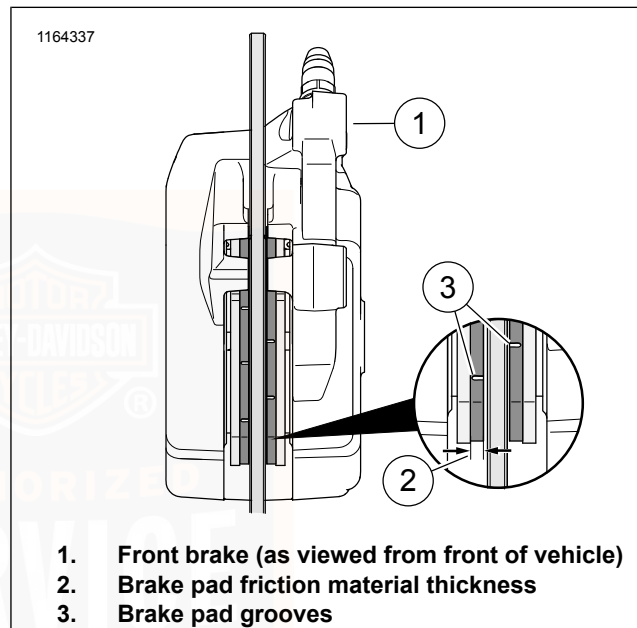
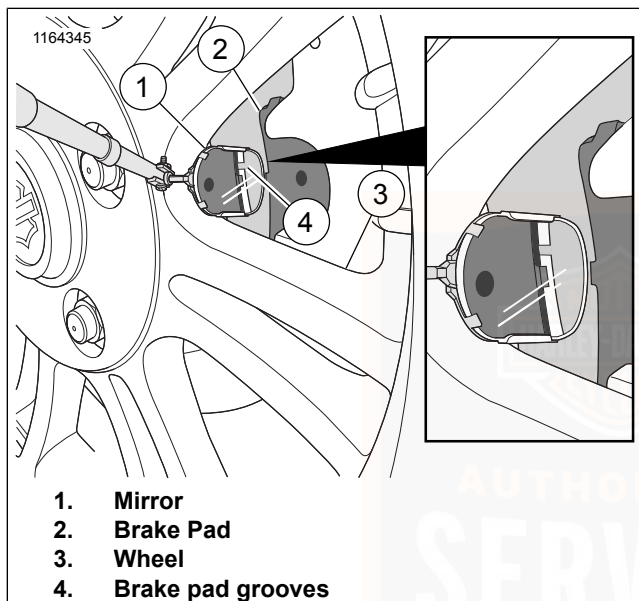

Figure 77. Front Brake Pad Friction Material
Figure 78. Rear Brake Pad Friction Material
2. See Figure 77 and Figure 78. Check brake disc/rotor as it spins. Disc/rotor should run true in brake caliper.